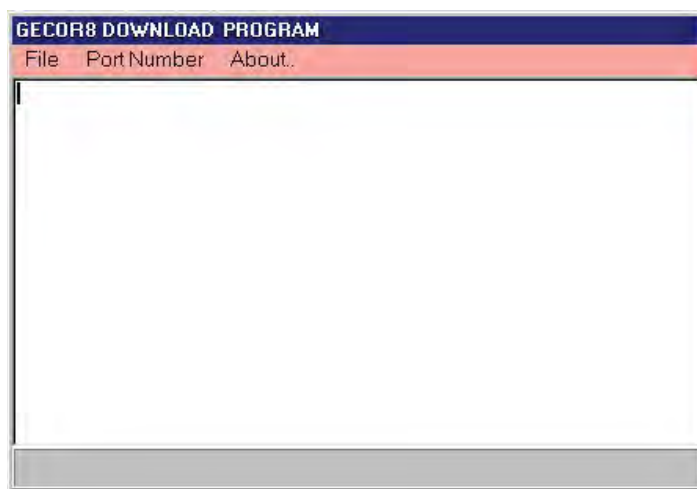

Figure 50.- Main menu of RX8
Open RX8 software on PC and Main menu appears (Figure 50). Indicate the port number of the PC on which the RS232 interface has been connected on PortNumber menu (from COM1 to COM4).
- In the main menu of RX8 program (Figure 50), select the menu "File -> Receive data file". At the bottom of the window "Waiting data transmission" message appears.
- In the main menu of RX8 program (Figure 50), select the menu "File -> Send file" and select a file to transmit. At the bottom of the window "Sending file" message appears.